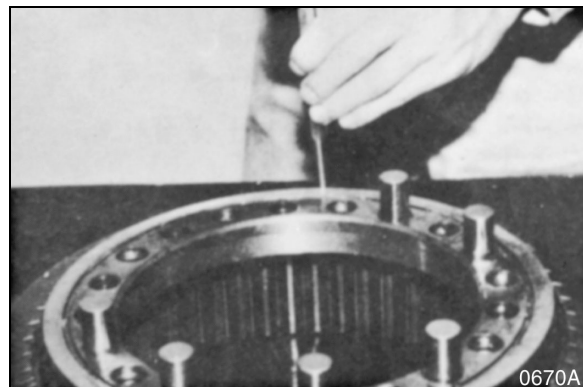

Figure 54
7. Remove the ring (15, Figure 13) from the inner ring gear (5, ring gear B). Discard the old ring and replace it with a new one before reassembly. The coupling gear (8) and inner ring gear (5, ring gear B) should only be disassembled if one or both of those components is worn or damaged, and requires replacement. See Figure 54.